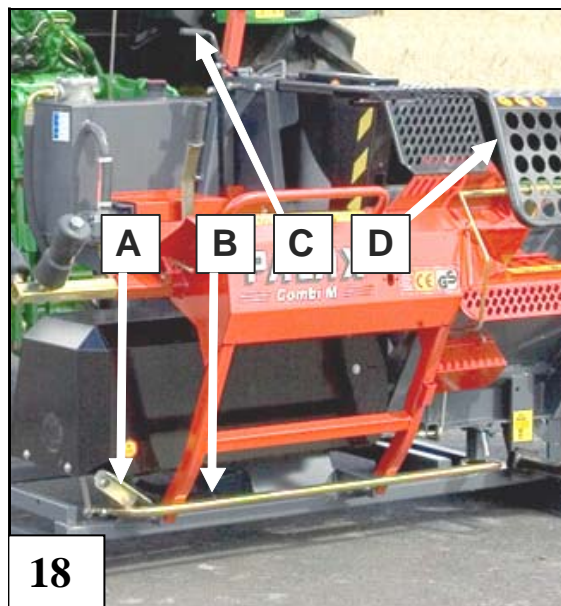

Fig. 18. Safety-related devices, which affect the operation
5.9 How the safety devices affect the operation of the machine, Figure 18
1. As the wood falls into the splitting chute, it hits the tip of the sensor (Figure 18).